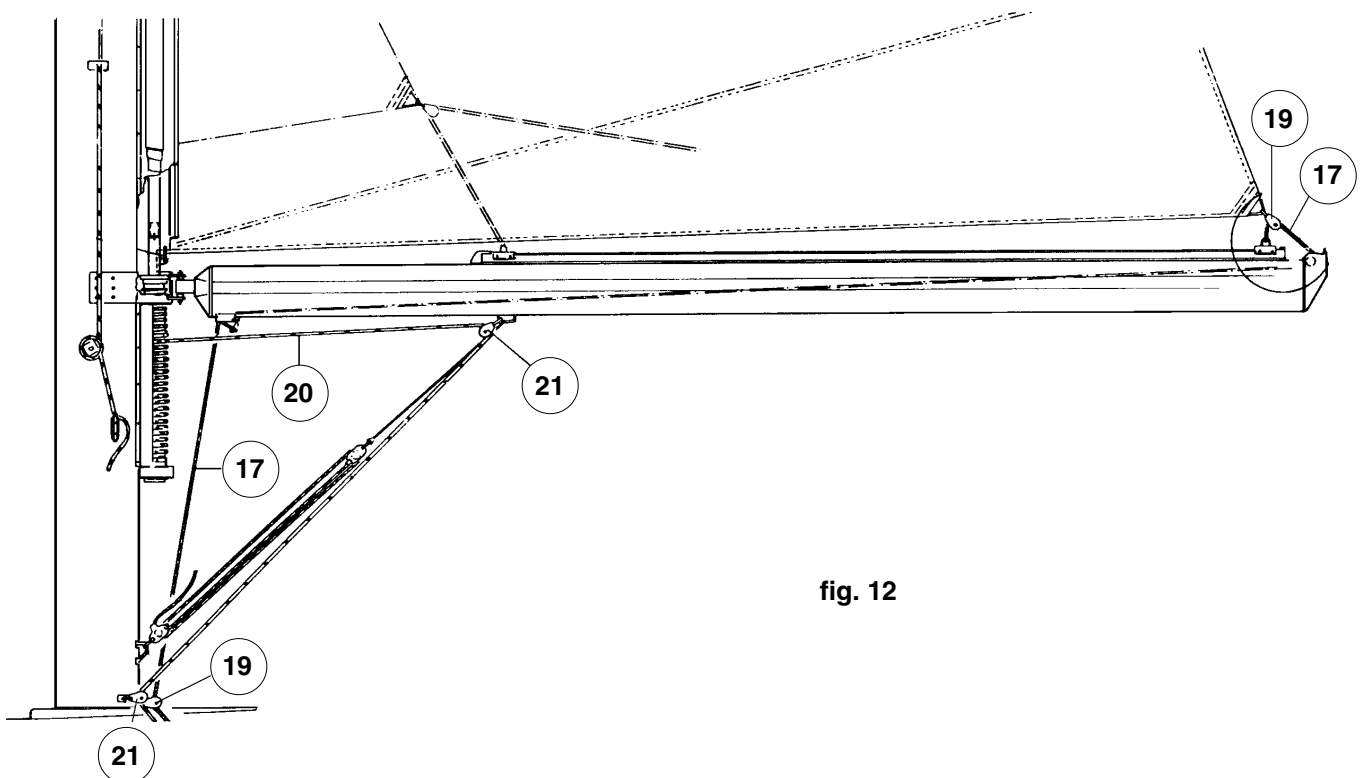

fig. 12
24 - Connect the big-size blocks (19) as shown in figure 12 and let the mainsail clew rope slide to the mast foot, then return the mainsail clew sheet rope (17). Connect a little block (21) under the boom at approx. 1 meter from the mast face and the second one to the mast foot, then return the coil drive rope.